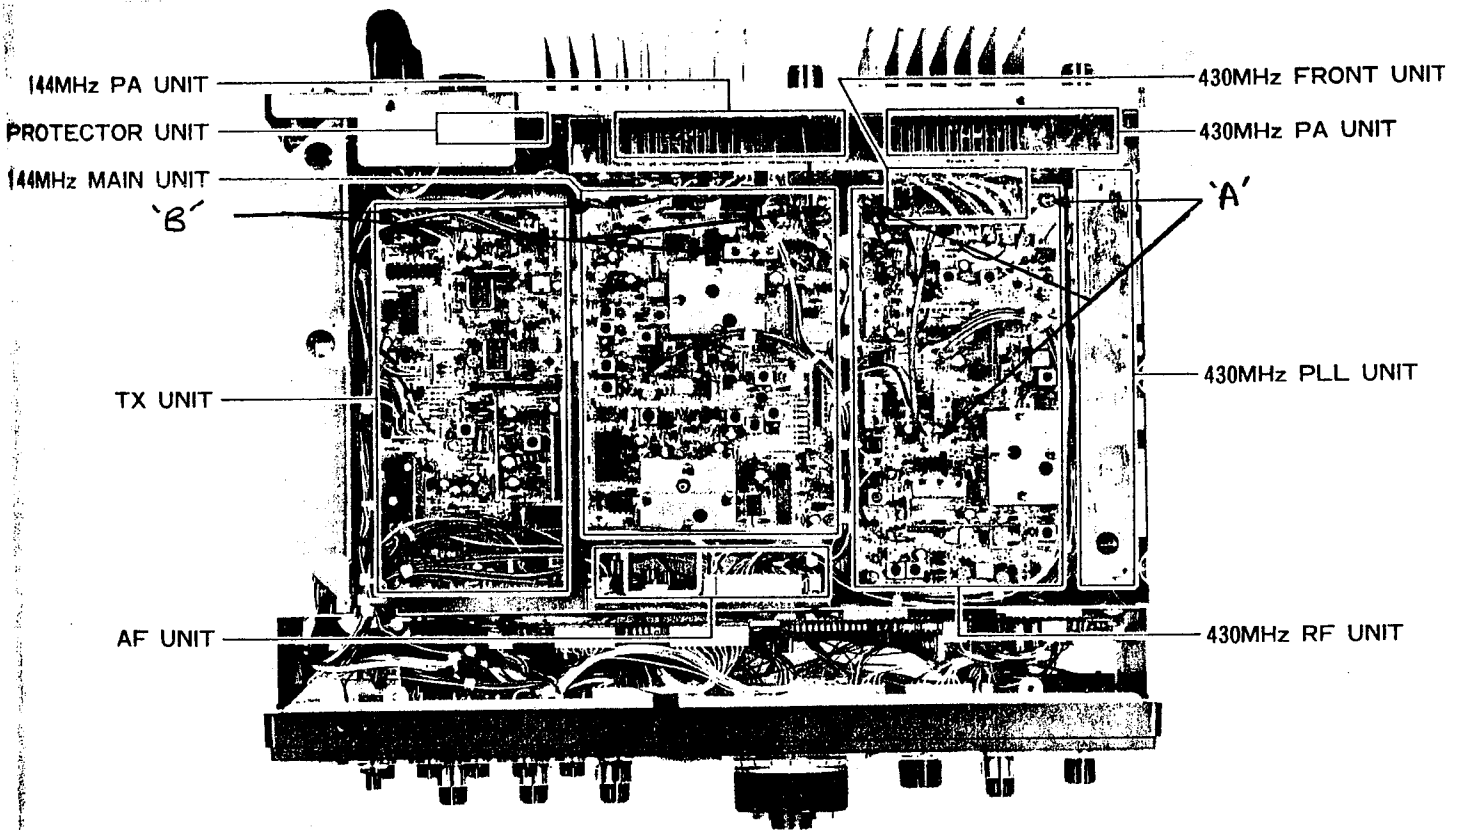
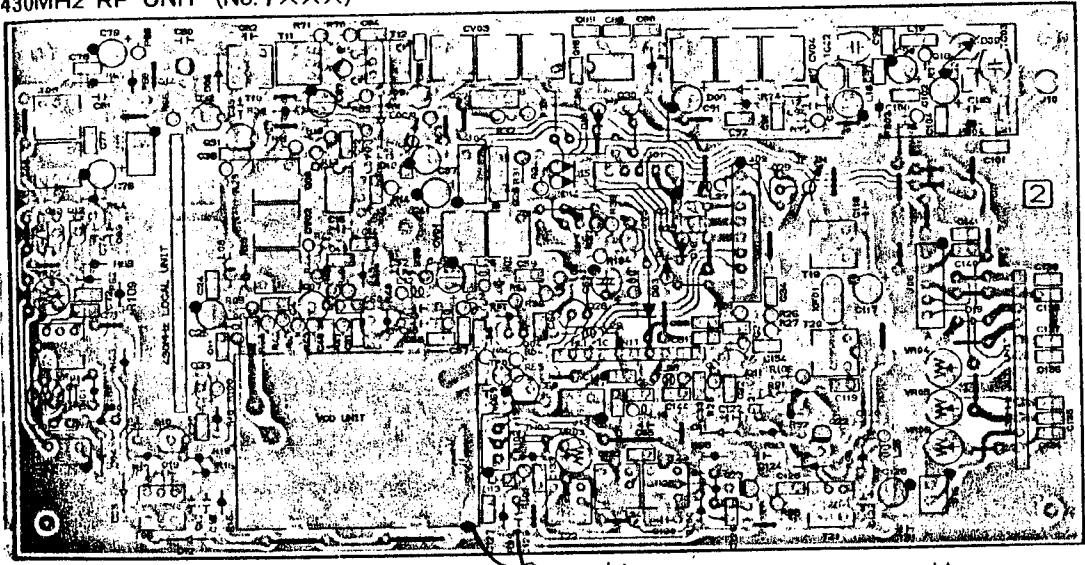
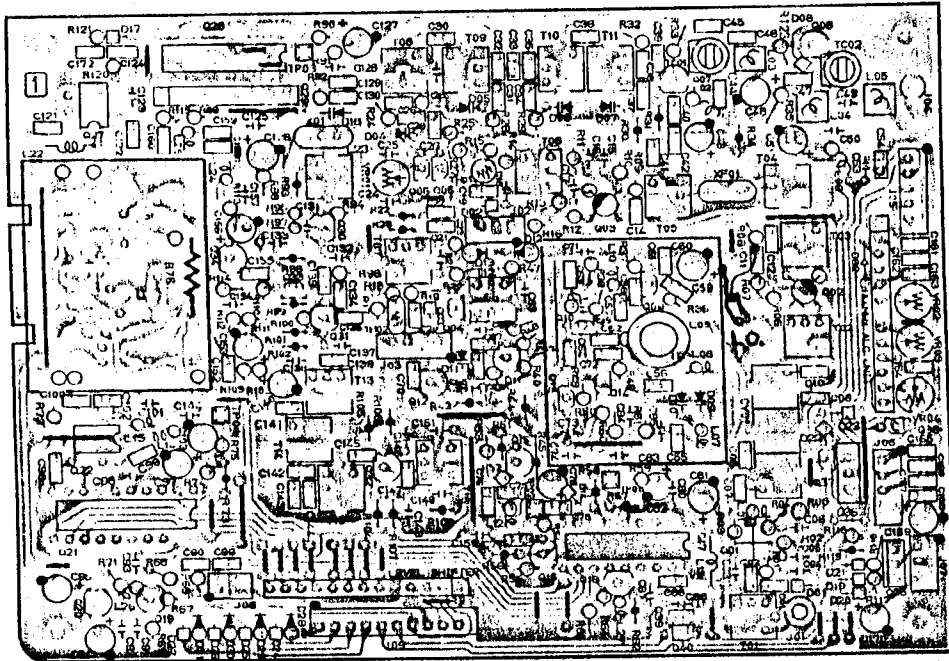

Figure 2
Figure 4
Figure 5
From the 430 MHz front end unit (this is the little can screwed to the back of the pa screen - see fig 2) remove:-
- 23) Place the heatsink assembly to one side. Return to the main chassis and remove the remainder of the plug in connectors from the 70 cms main unit. Remove the main unit pcb from the chassis. Using the M3 tap provided cut a thread in the three holes marked 'A' in fig 2. Remove C129 from the 70 cms main unit. See fig 4 for the location of this component. Solder one of the white L.O. cables to the main unit as shown, the screen of the cable should be soldered to the vco screen and the core to the junction of D12 and R99. Desolder the original 1st IF input cable - this is no longer required. Replace the main unit in the chassis and secure with 2 self tappers in the holes nearest the front of the rig. Reconnect all of the plug in cables except J15 which will be connected to the new board. Carefully unwind the wire loops that secure the first LO cable along side the Tx strip screen.
- 24) Carefully remove all of the plug in connectors from the 2m main unit and remove the unit from the chassis. With the M3 tap cut threads in the three holes marked 'B' in fig 2. Desolder and remove C11 from the 2m main unit. Solder the other LO coaxial cable as shown in fig 5, the screen should be soldered to the screen of the VCO. Replace the unit in the chassis, again securing the unit with the two self tapers nearest the front of the rig. Replace all of the plug in connectors except J02 which will be connected to the new board.